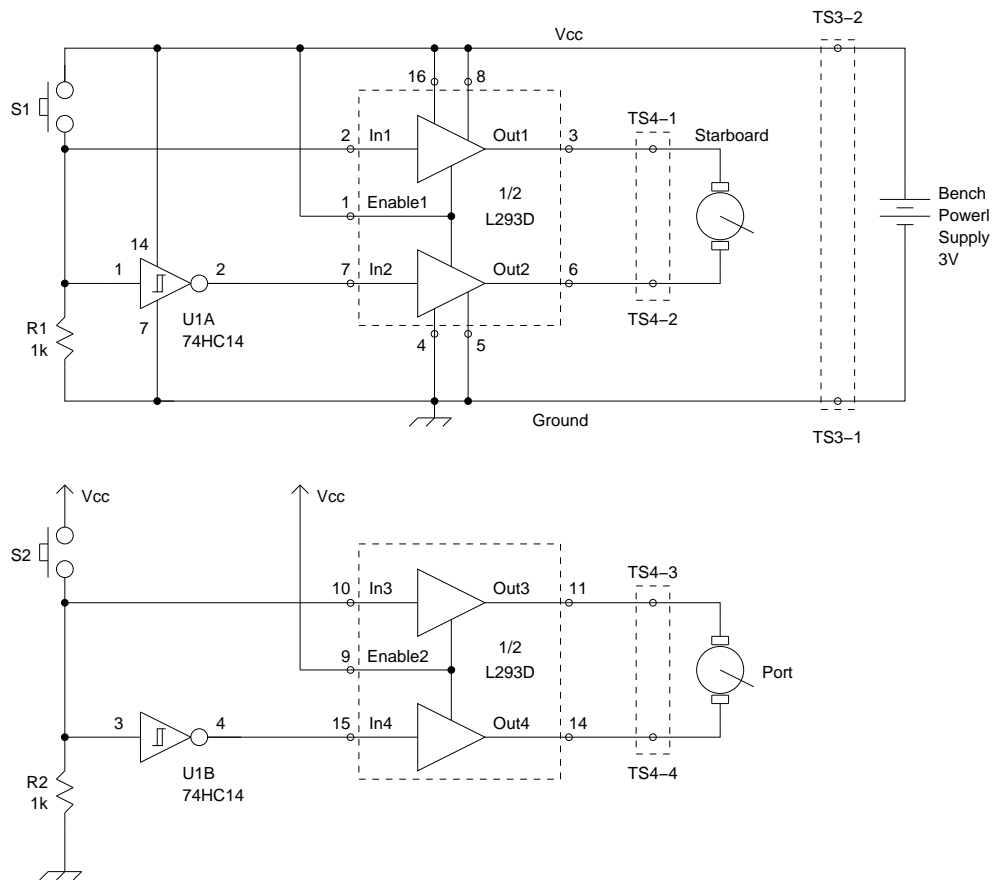

Figure 20: Button Direction Control
The circuit diagram for this part of the lab exercise is shown in figure 20.
2. Carefully complete the wiring in figure 20, crossing it off as it is checked. Leave out the pushbutton wiring to start with.